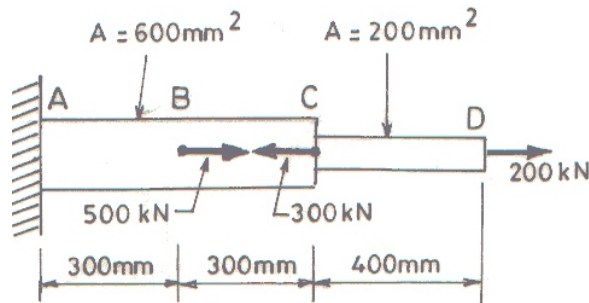

Fig. 1
1. Determine the deflection of the free end of the steel rod shown in Fig. 1 under the given load ($E = 200 \text{ GPa}$).